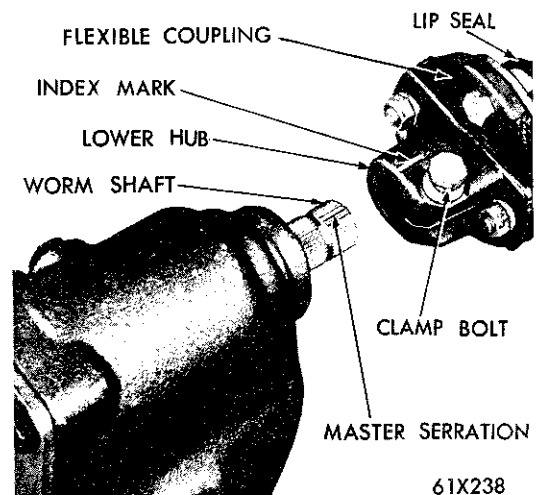

Fig. 3—Aligning Steering Gear with Flexible Coupling
(4) Align the index mark on the outside of the flexible coupling hub with the master spline on the steering worm shaft (Fig. 3).
(5) Slide the coupling on the worm shaft and install the gear housing to frame side rail attaching bolts and nuts.
(6) Tighten bolts evenly to 50 foot-pounds torque.
(7) Position the flexible coupling bolt hole in line with the groove on the worm shaft and install the bolt and lockwasher.
(8) Tighten the bolt 30 to 35 foot-pounds torque.